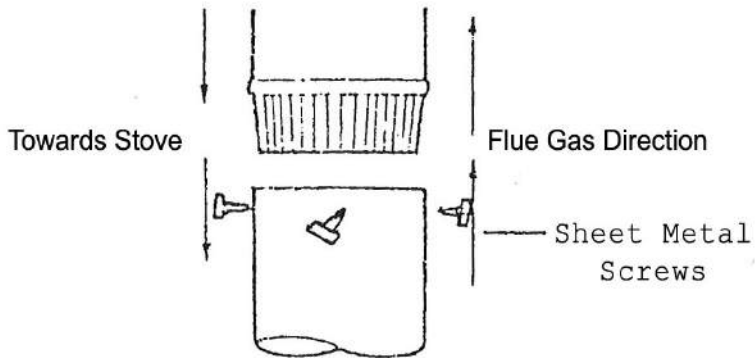

FIGURE 5
5. Chimney connector sections must be attached to stove and to each other with the crimped end toward the stove. (See Figure 5). This allows creosote to run into the stove and not onto the outside of the pipe.